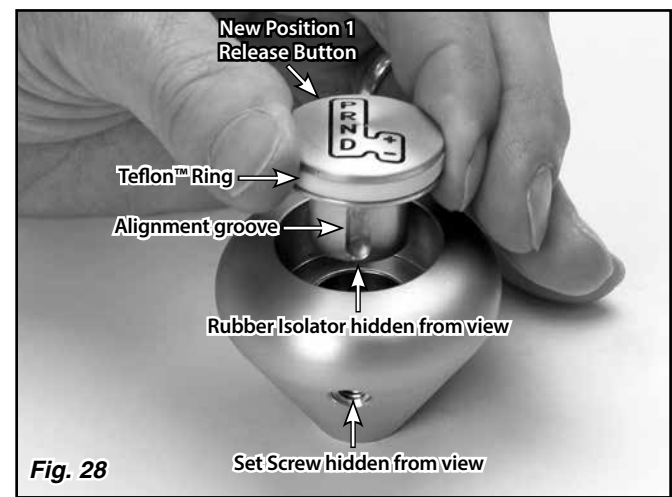

Fig. 28
Step 14: Place the Teflon ring in the groove on the new Position 1 release button. Hold the ends of the Teflon ring together under one of your fingers, and install the Position 1 release button into the knob, making sure the alignment groove in the release button is aligned with the set screw. **Fig. 28**